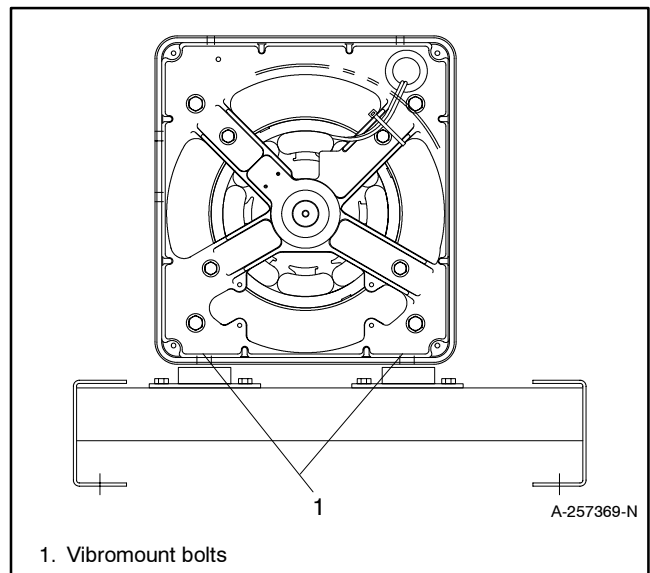

Figure 6-15 Vibromounts
10. Remove two bolts securing vibromounts to skid. See Figure 6-15.